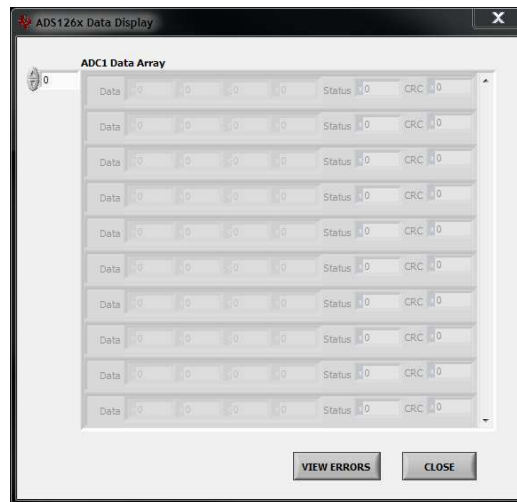

Figure 27. Data Monitor Window
- *View Data* reveals a data monitor that shows the raw ADC codes along with the STATUS and CHECKSUM/CRC bytes, as shown in Figure 27.